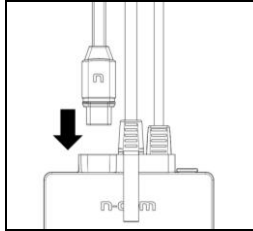

Fig. 29
- Line up the keypad connector to the e-box (Fig. 29).